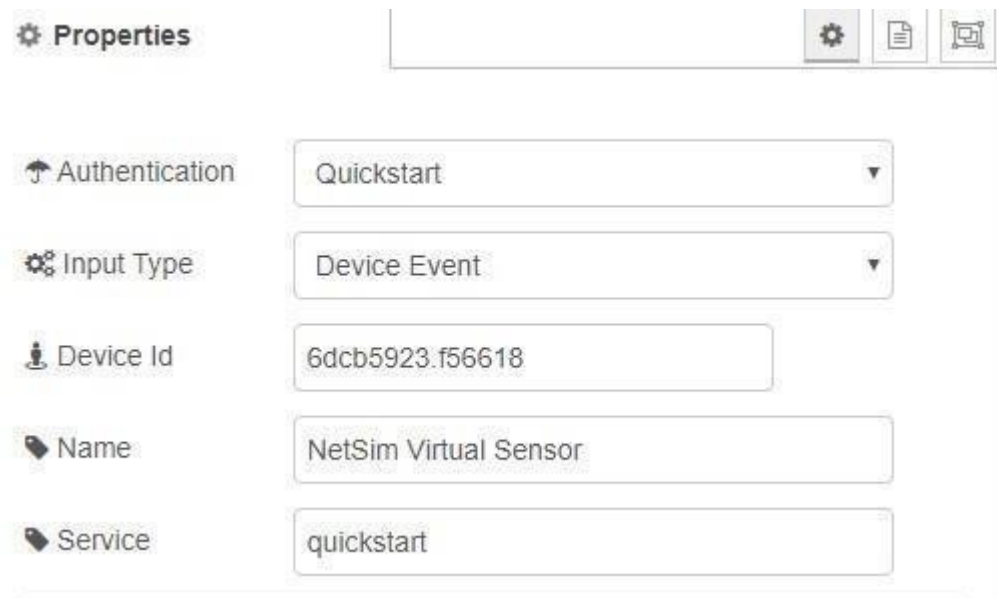
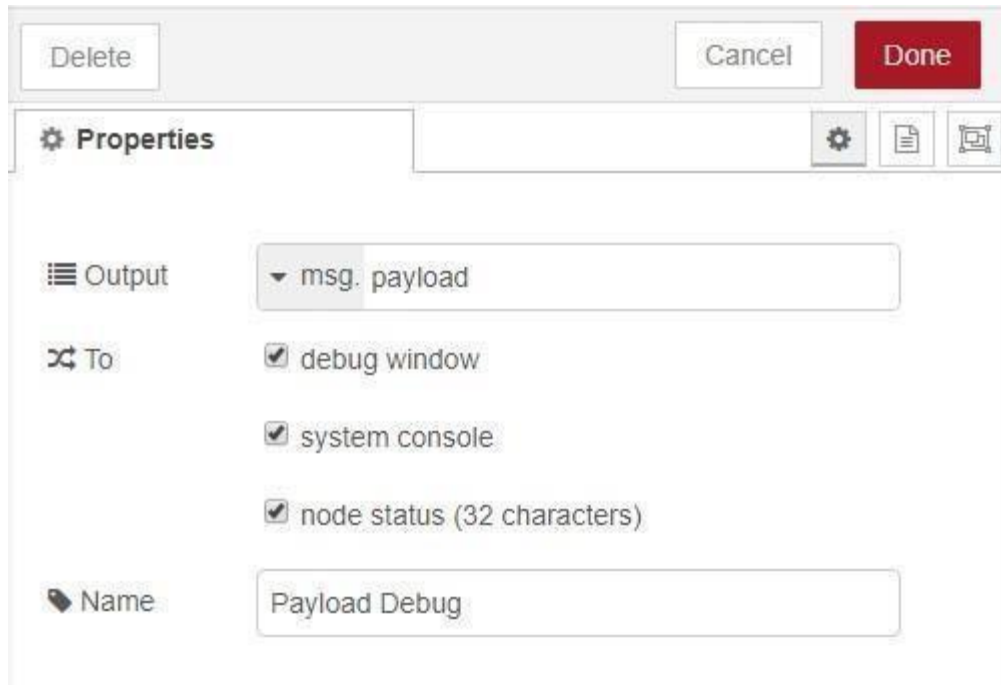

Figure 1.10
Figure 1.12
- Configure the device present in the flow graph in Figure 1.10, Figure 1.11 and Figure 1.12
f. Enable Debug window using Debug node to access payload to file as shown in Figure 1.12. If you need that payload to be written to a file, then while running Node-RED command to the beginning you can start writing it to a file as